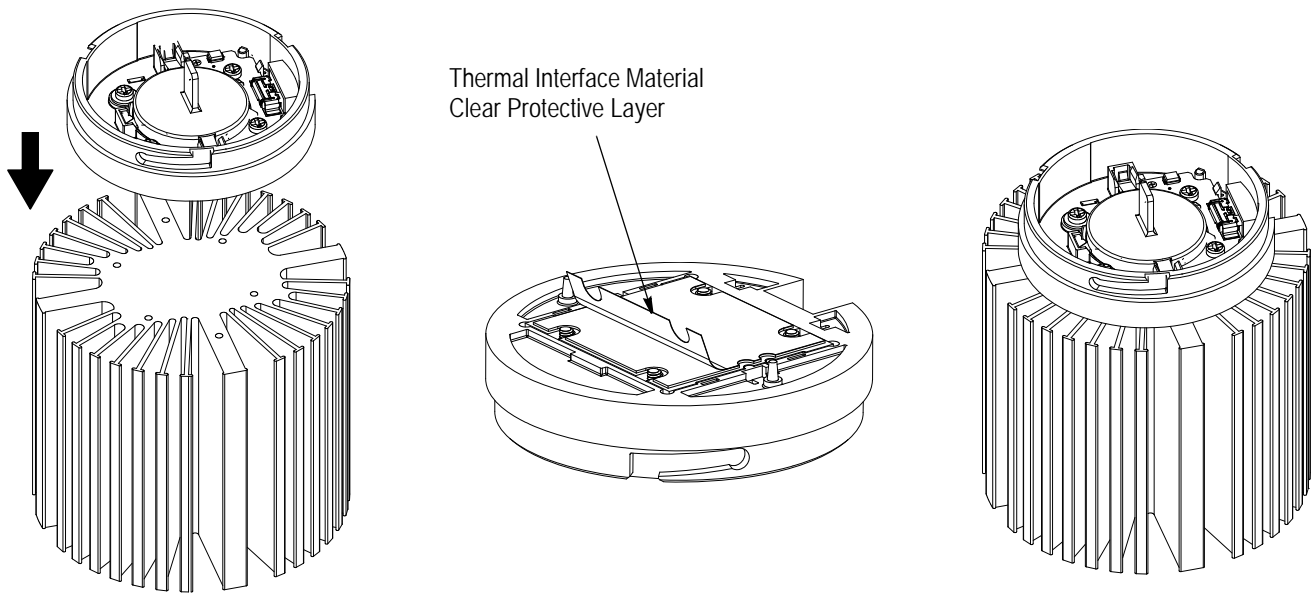

Figure 3
1. Once the heat sink has been properly sized and prepared for the application of the Circular Light Module (CN88), the base sub-assembly (base housing, screws, protection cover, PCBA, LED, and TIM) can be aligned over the mounting holes. Mounting screws to be alternately tightened to a torque of 0.28 to 0.45 N•m [2.5 to 4.0 in.-lbf]. See Figure 3. The protective cover can now be removed.